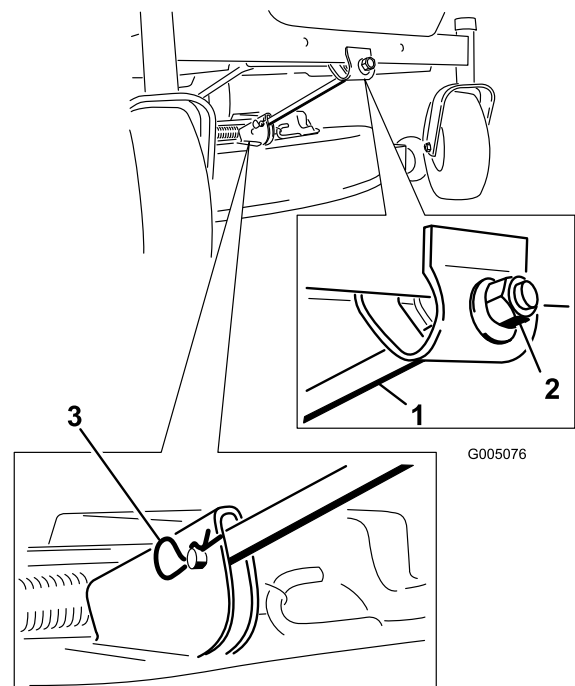

Figure 46
- Remove the hairpin cotter and clevis pin from the front support rod (Figure 46). Carefully lower the front of the mower deck to the ground.
6. Attach the front support rod to the mower deck with the clevis pin and hairpin cotter (Figure 46).